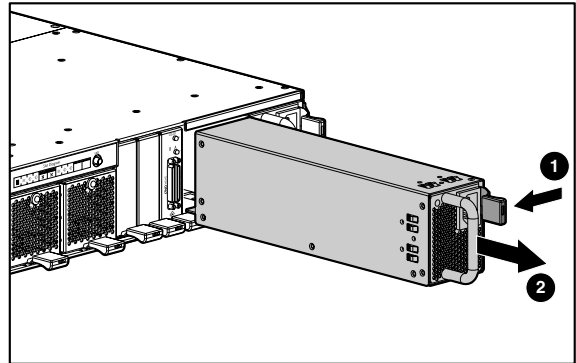

Figure 4: Removing the power supply
1. While pushing the power supply port-colored module latch ❶, pull the power supply out of the enclosure ❷ as shown in Figure 4.